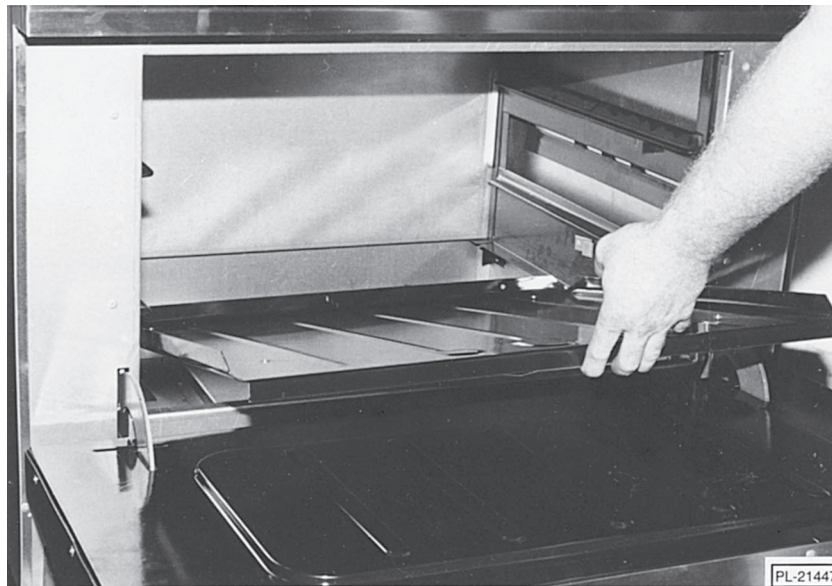

Fig. 16
2. If temperature is out of calibration, allow unit to cool until the oven bottom or griddle plate (whichever is being tested) is cool to the touch. Remove oven bottom or griddle plate to expose burner area (Fig. 16). (Removal of oven bottom is an optional procedure. Burner flame may also be observed through the oven view port.)